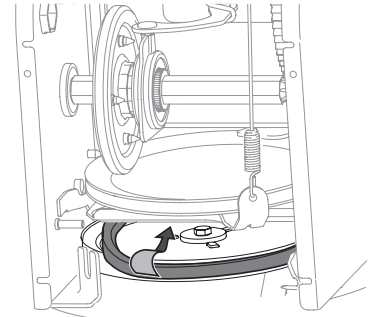

Figure 4-18
7. Remove belt from around auger pulley, and slip it between support bracket and auger pulley. See Figure 4-18.